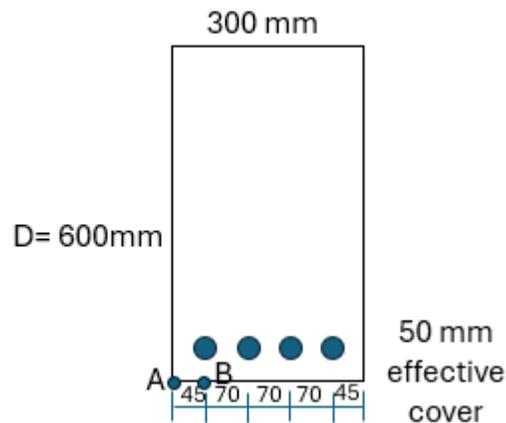

Figure 1
b) For the beam cross section shown in Figure 1, compute the crack widths at points A and B. The beam is simply supported over a span of 6m and subjected to a service load including self weight of 30 kN/m. 4 numbers of 20mm dia bars are provided as tension steel reinforcement. M30 grade concrete and Fe 415 steel are used.